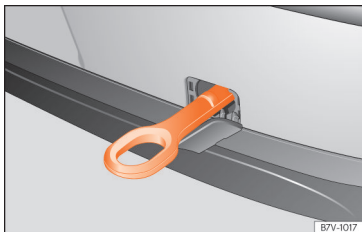

Fig. 57 On the right side of the rear bumper: towline anchorage in position.
The housing of the screw towing eye is on the right side of the rear bumper behind a lid » **Fig. 57**.
- Press the upper side of the lid » **Fig. 57** to unclip it.